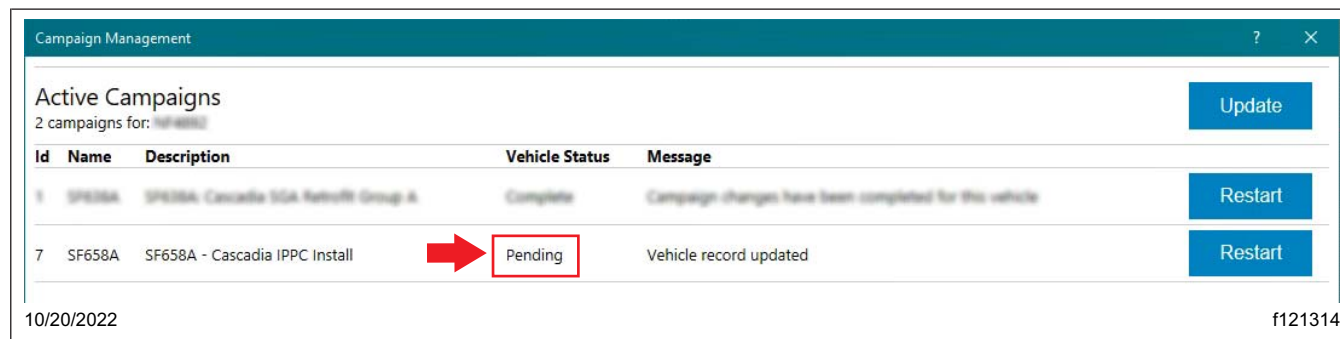

Fig. 12, Vehicle Status Changed to Pending
- 18.4 Wait for the 'Vehicle Status' to be displayed as 'Pending.' See Fig. 12.